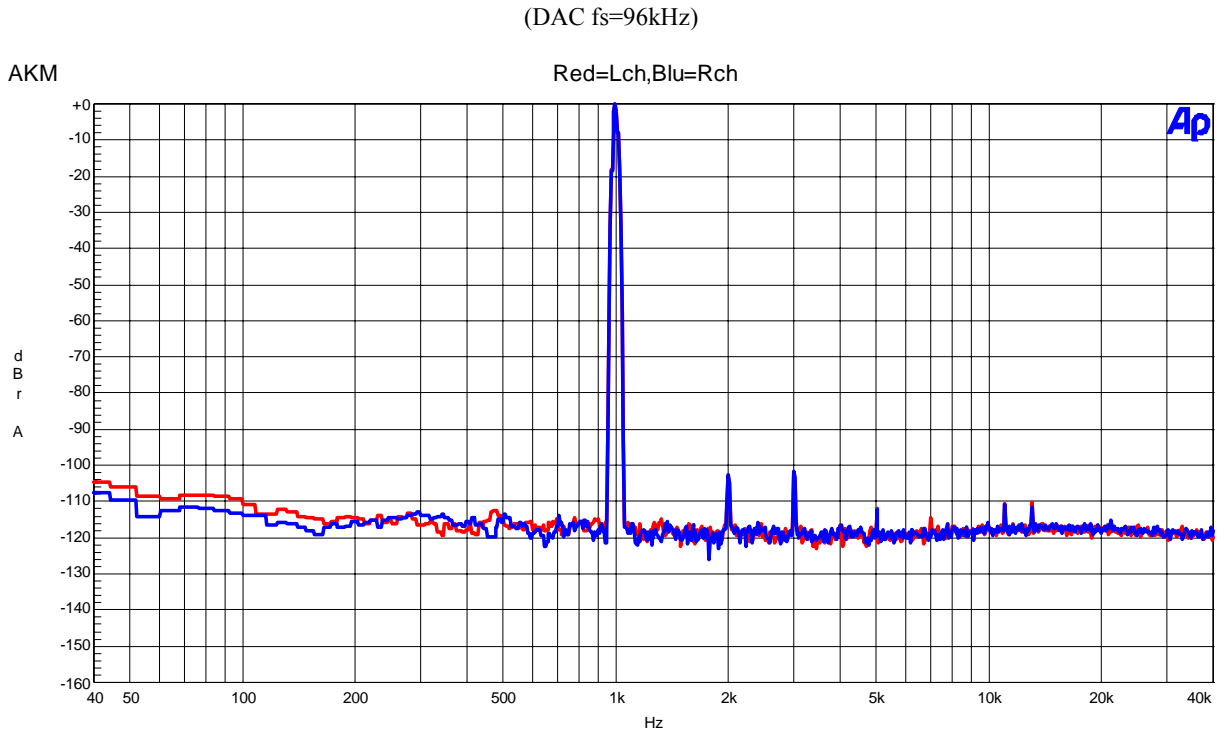

Figure 26. FFT(Input Frequency=1kHz, Input Level=0dBFS)
- Figure 26. FFT (out-of-band noise)